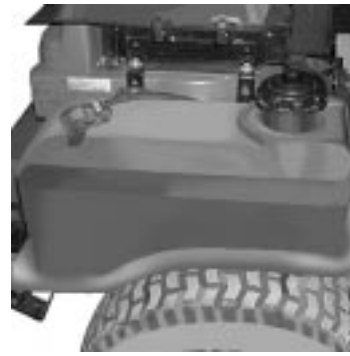

Figure. 4
7. **Fuel Shutoff Valve:** (See Figure 4.) Located behind the operator's seat, the valve has three (3) positions: "off", "Left Tank", "Right Tank". Close this valve if you are not going to run the mower for a period of 30 minutes or more to prevent flooding the engine. The fuel system operates at 25 psi when the ignition switch is in the "on" position.